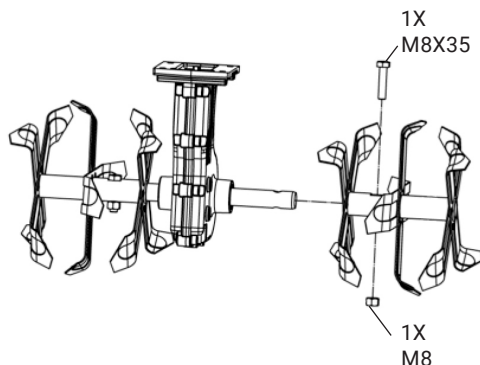

Fig.7
- Clean the underside of the motor support plate and housing around the tines with a scrub brush, and a soft cloth dampened with a mild soap and water mixture. Never use a water hose to clean the tiller! To remove soil and debris from the transmission and tines, use a stiff brush or a dampened cloth. Clean the vents on the motor housing and remove any remaining grass or dirt. Once cleaned, wipe the tines and shaft dry and apply a light coat of oil to prevent rust. Tines Removal and Installation (Fig. 7): Worn tines invite poor performance and overload of the motor. Check tines before each use. Sharpen or replace the tine assemblies with new ones when necessary.